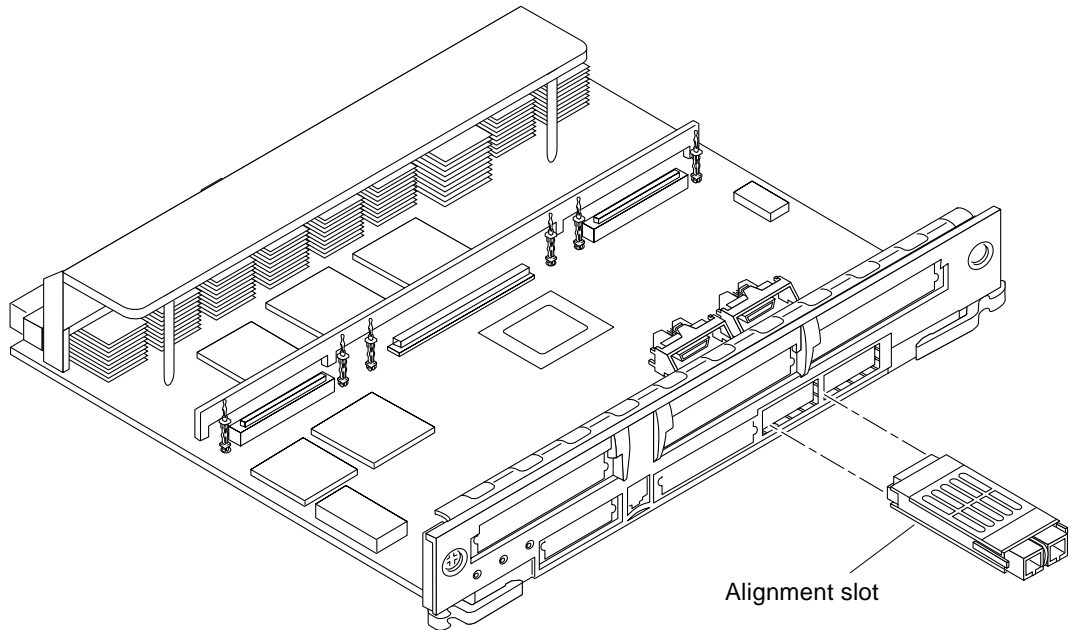

FIGURE 4-19 Removing or Installing a GBIC
2. Remove the GBIC from the I/O+ board by compressing the locking tabs located on either side of the card and pulling straight out from the opening in the I/O+ board panel (FIGURE 4-19).
The alignment slots are on the bottom of the GBIC (FIGURE 4-19).